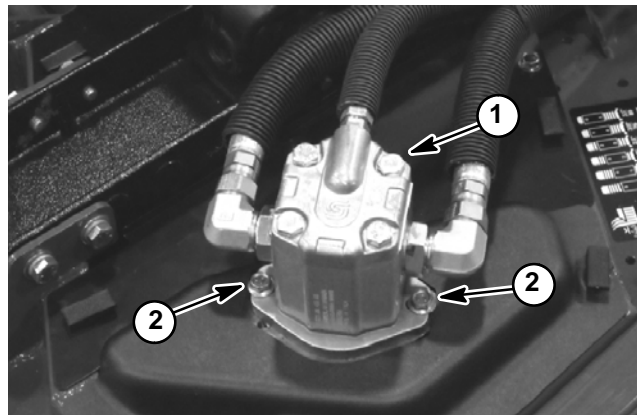

Figure 99
4. Remove two (2) flange head screws that secure hydraulic motor to motor mount (Fig. 99).
5. Secure motor to cutting deck with two (2) flange head screws (Fig. 99).